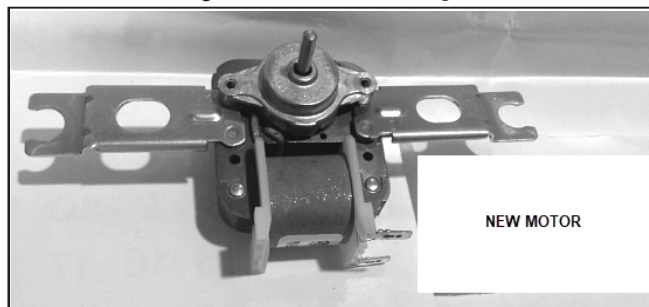

Figure 7
9. Reinstall the bearing block screws. See *Figure 7*